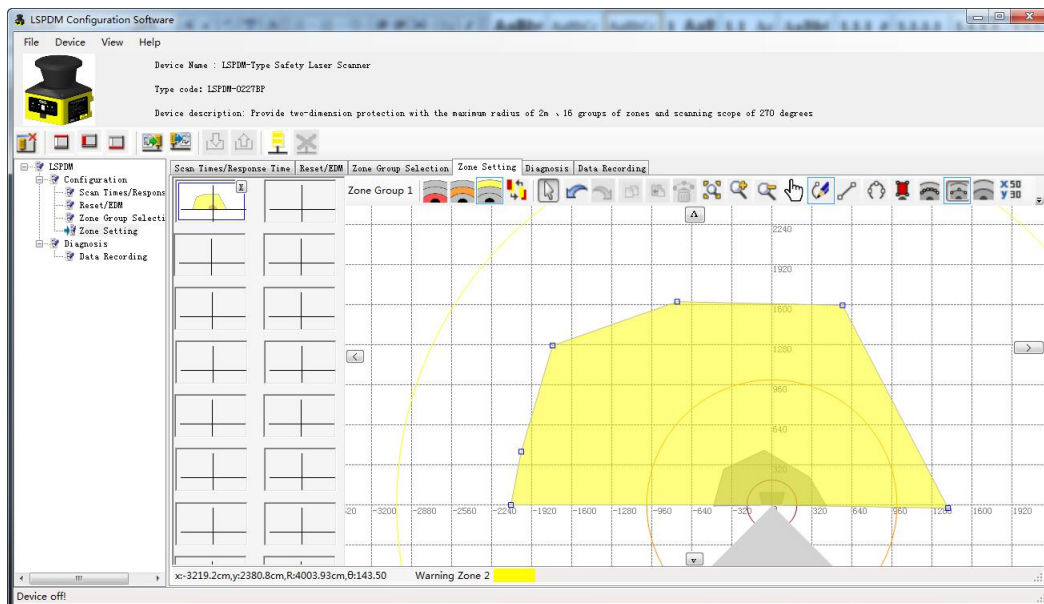

Fig 3.2.10 Import zone boundary
Step③: If device type of imported configuration file and the device type of software are matched, zone boundary profile is displayed as Fig.3.2.10